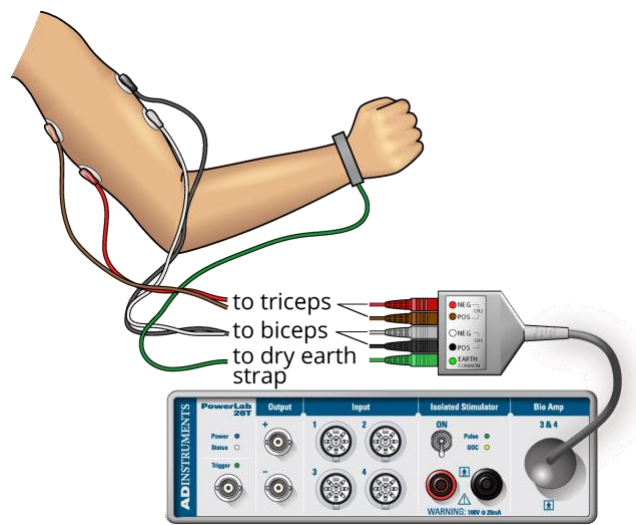

Figure 3. Equipment Setup for PowerLab 26T. Image courtesy of ADInstruments ©
2. Connect the 5 Lead Shielded Bio Amp Cable to the Bio Amp Connector on the front panel of the PowerLab (Figure 3). **The hardware needs to be connected before you open the settings file.**
3. Remove any jewelry from the volunteer's hand and arm. Use the ballpoint pen to mark two small crosses 2-3 cm apart on the skin above the biceps muscle and triceps muscle. Use Figures 3 and 4 as a guide. Abrade the skin with abrasive gel or alcohol pad. This is important as abrasion helps reduce the skin's resistance. After abrasion, clean the area with an alcohol pad to remove the dead skin cells.
5. Attach the four electrodes and velcro grounding strap (Earth lead) to the volunteer. Channel 1 will lead to the biceps (place the negative [white] wire 2-3 cm above the positive [black] wire), Channel 2 will lead to the triceps (place the negative [red] wire 2-3 cm above the positive [brown] wire), and the Earth (green) will be connected to the velcro grounding strap via the alligator clip. Refer to Figures 3 and 4 for proper placement.